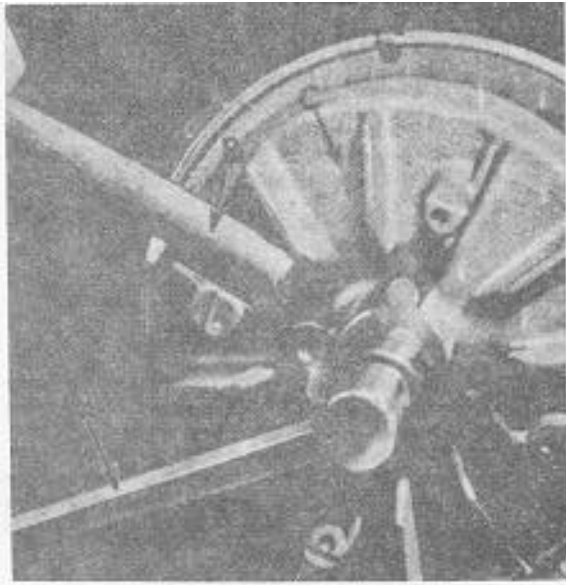

Figure 32
- b. Install starter pulley, lock washer and holding nut. Insert a bar between flywheel fins (B, Fig. 32) and torque holding nut to 75 foot pounds (A, Fig. 32).